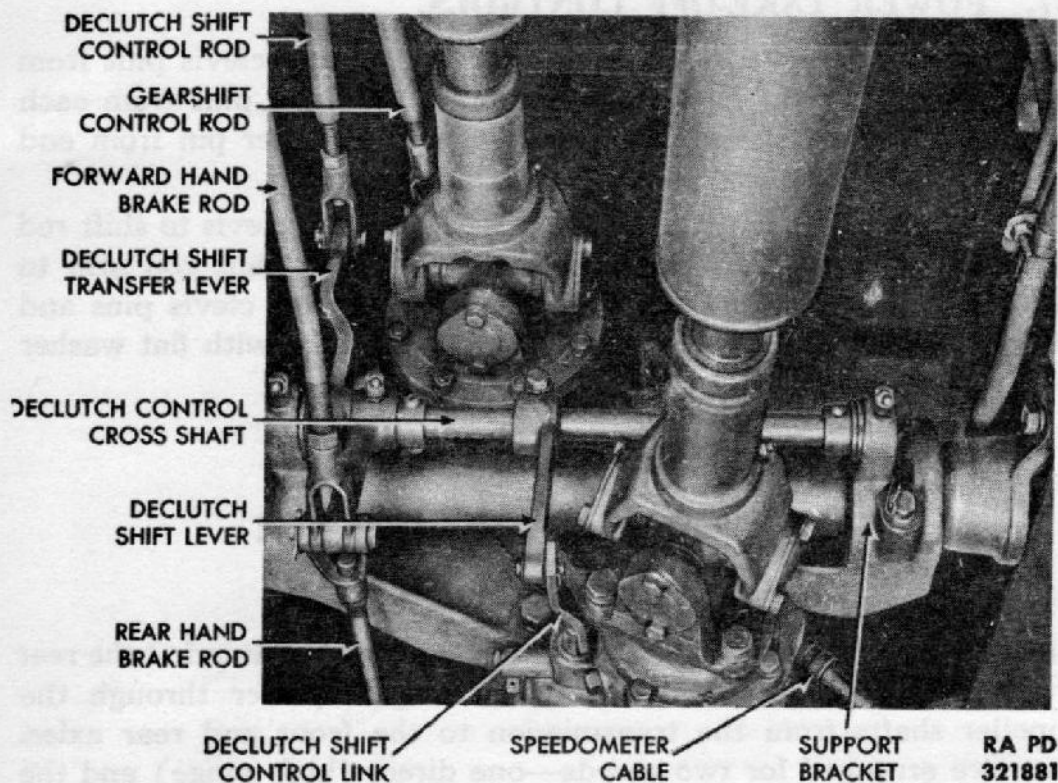

Figure 92 - Transfer Case Linkage
129. REMOVAL OF LINKAGE (fig. 92).
130. INSTALLATION OF LINKAGE (fig. 92).
f. **Disconnect Speedometer Cable** (fig. 92). Back off knurled nut, and detach speedometer cable from transfer case.
c. Connect Speedometer Cable (fig. 92). Thread knurled nut on speedometer cable into position on transfer case.